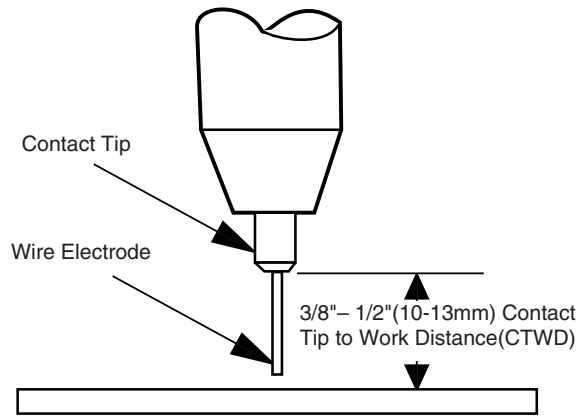

FIGURE B.6
13. Refer to Figure B-6. Cut the wire off 3/8" – 1/2" (10 – 13 mm) from the end of the tip. The SP-135T is now ready to weld.